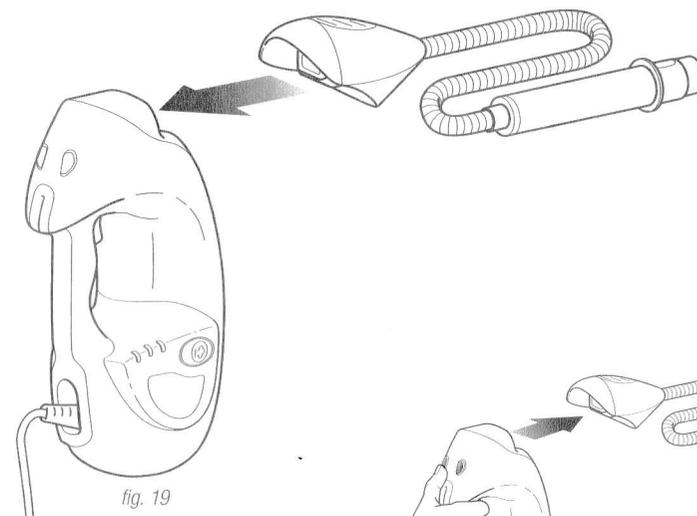

fig. 19
- To use the Accessory Hose, first attach the Accessory Hose to the Handheld Steamer by snapping the Accessory Hose into the main nozzle. (fig. 19)